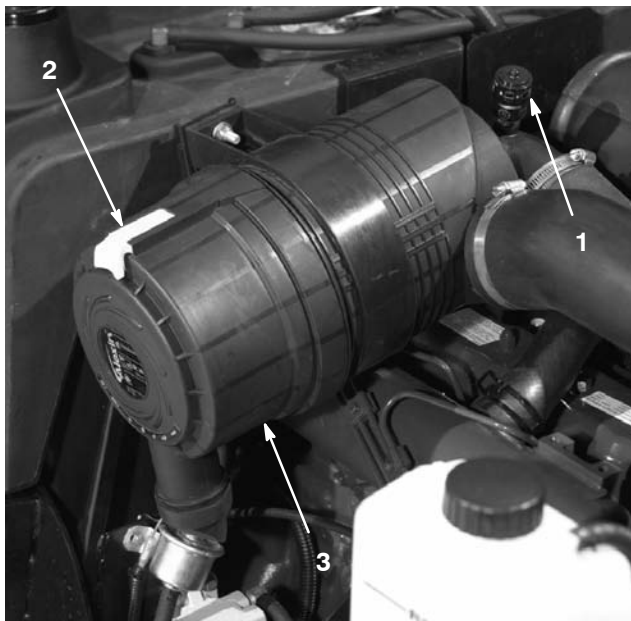

Figure 43
Service the air cleaner filters when the air cleaner indicator (Fig. 43) shows red or every 400 hours (more frequently in extremely dusty or dirty conditions). Do not over-service the air filter.
1. Pull the latch outward and rotate the air cleaner cover counterclockwise. Remove the cover from the body (Fig. 43). Clean the inside of the air cleaner cover.
6. Reset the indicator (Fig. 43) if it shows red.